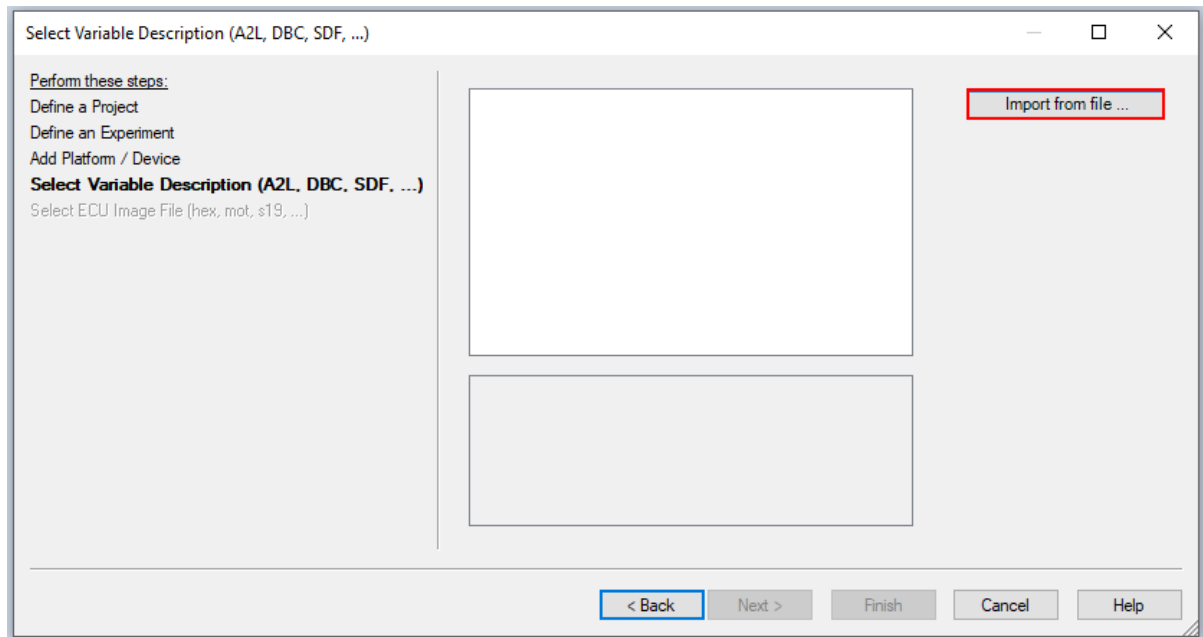
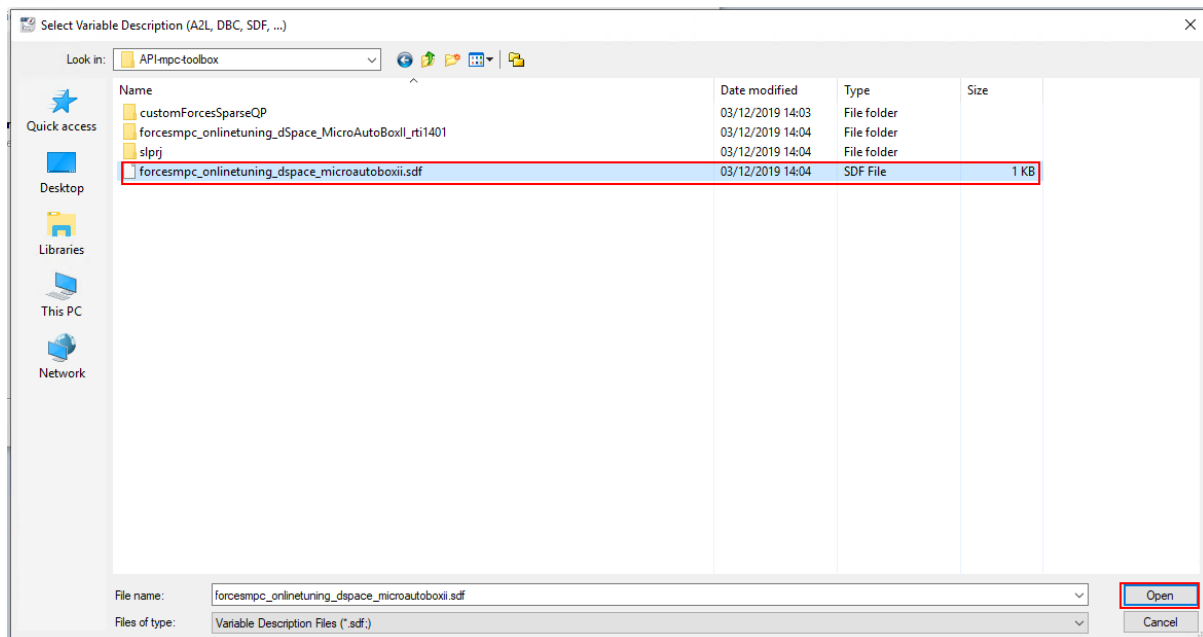

Figure 6.12: Import the variable description file
Figure 6.13: Select the sdf file with the variables description
- 9) Import the variable description file *forcesmpc_onlinetuning_dSpace_MicroAutoBoxII.sdf* in order to have access to the model variables and see the results of the execution (see Figure 6.12 and Figure 6.13).